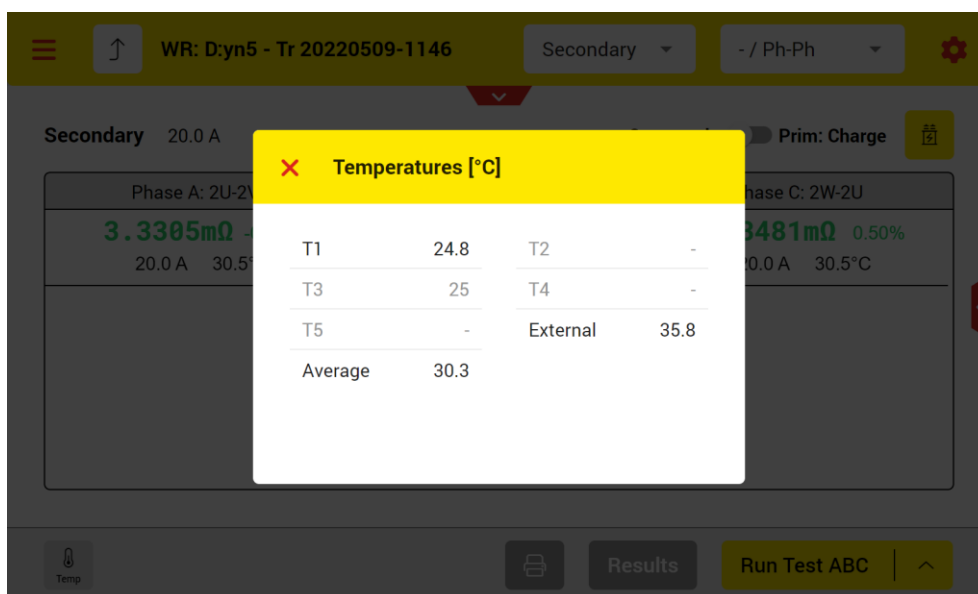

Figure 55: Actual Temperature values
- 16 To see the actual measurement value of each temperature measurement channel (See Figure 55)
In the live temperatures window (Figure 55) which can be opened from the bottom-left corner of measuring screen, you can see the actual temperature values. Here T1 is plugged-in and also activated in the setting. T3 is not activated but plugged in. If a temperature channel is activated but not plugged-in, the mini-ATOS will display an error message after starting the measurement.